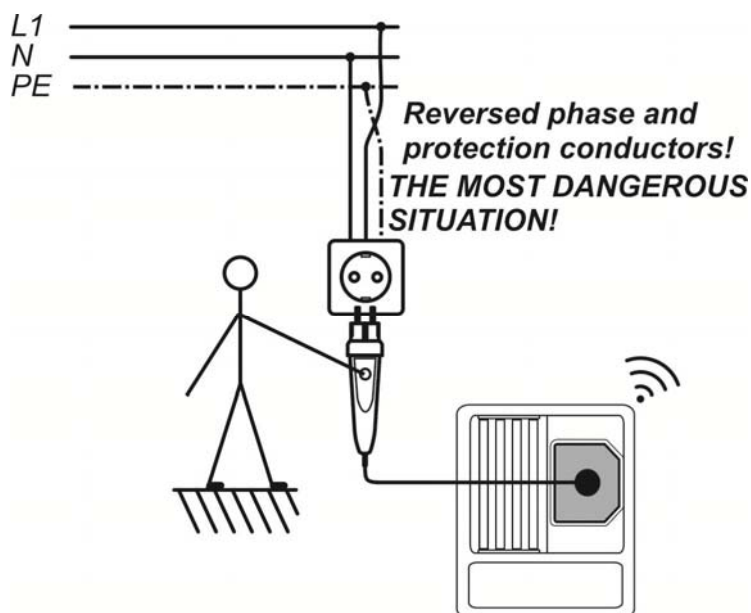
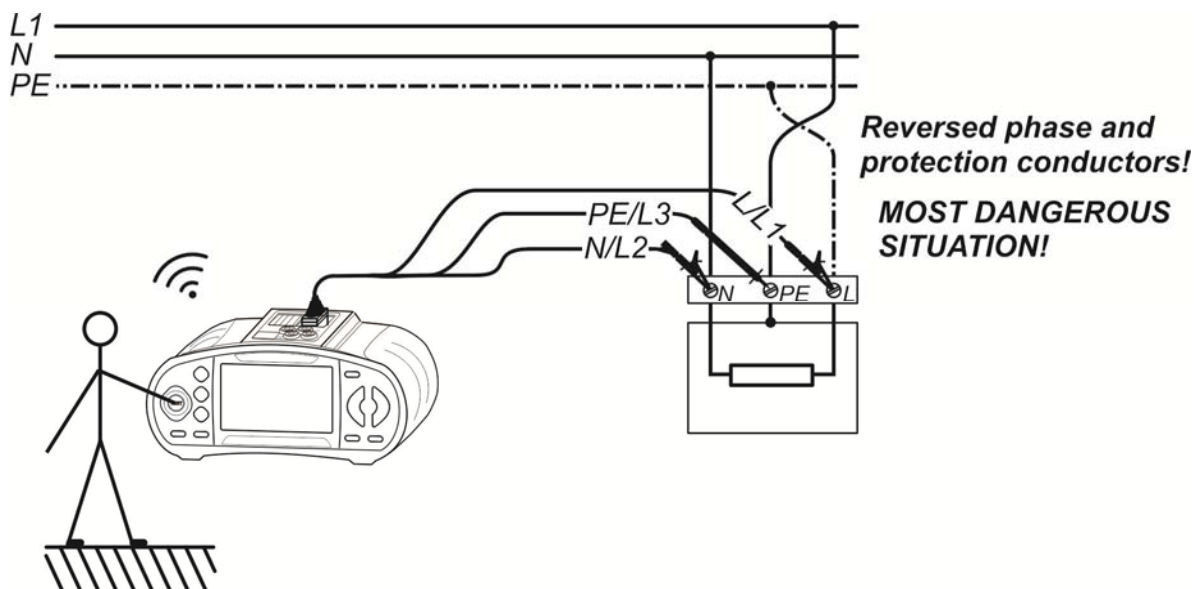

Figure 5.36: Reversed L and PE conductors (plug commander)
Figure 5.37: Reversed L and PE conductors (application of 3-wire test lead)
- ❑ **Connect** test leads to the item to be tested (see *Figure 5.36* and *Figure 5.37*).